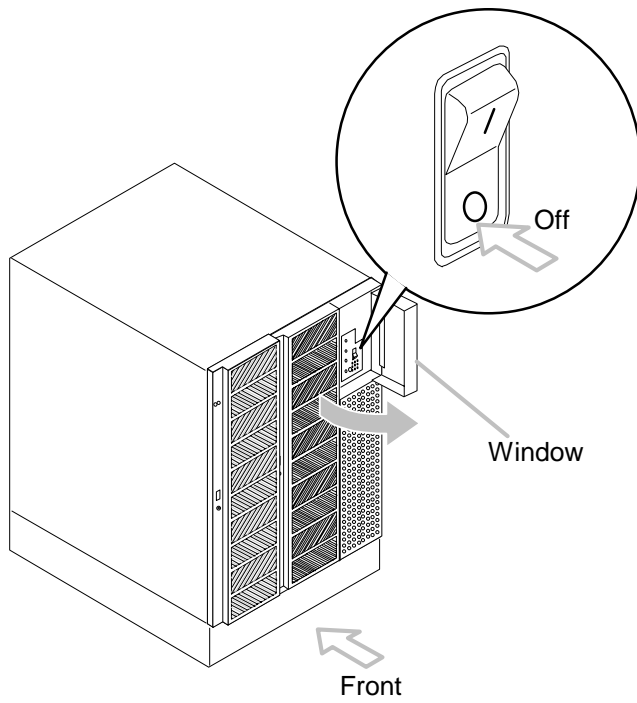

Figure 4.27 Main Switch
1. Turn off the main switch. (see figure 4.27)
2. Insert the key attached to the equipment in the keyhole of the RK front bezel. Turn the key 90° clockwise for unlocking.